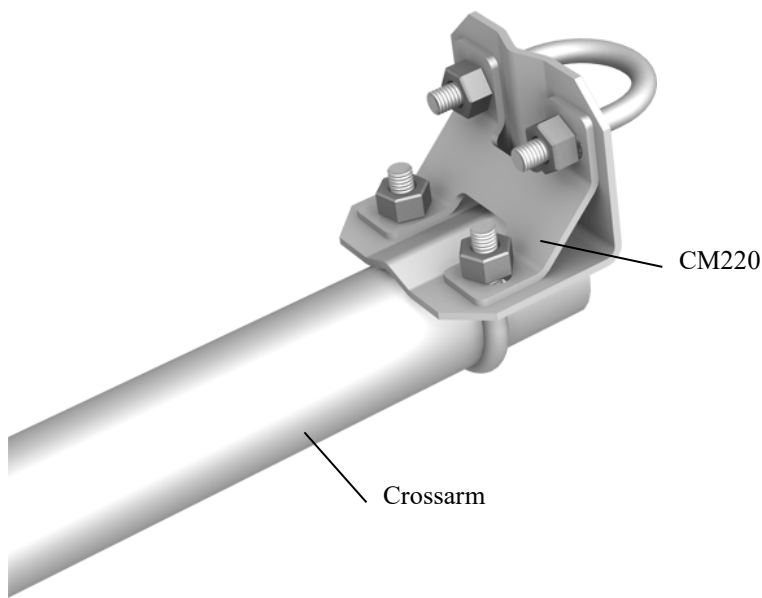
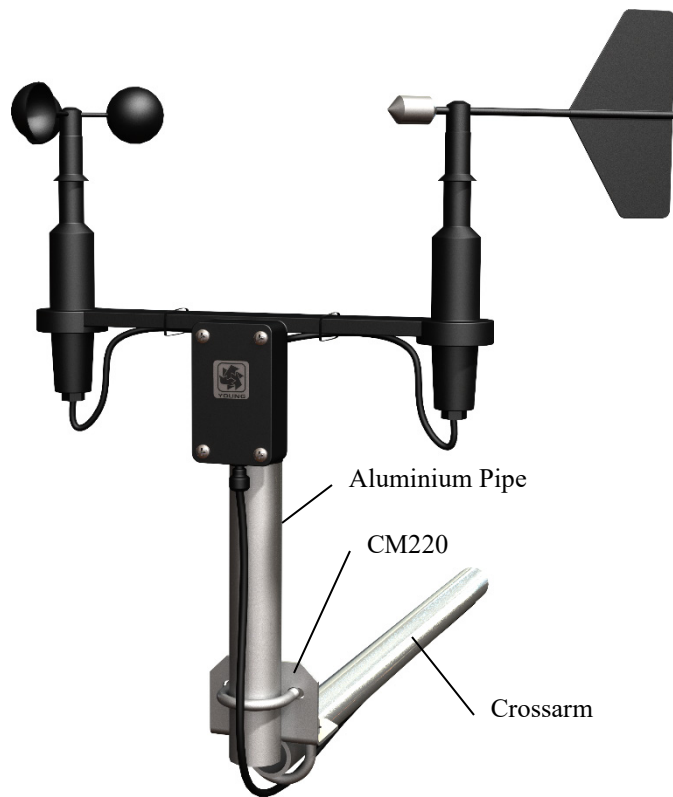
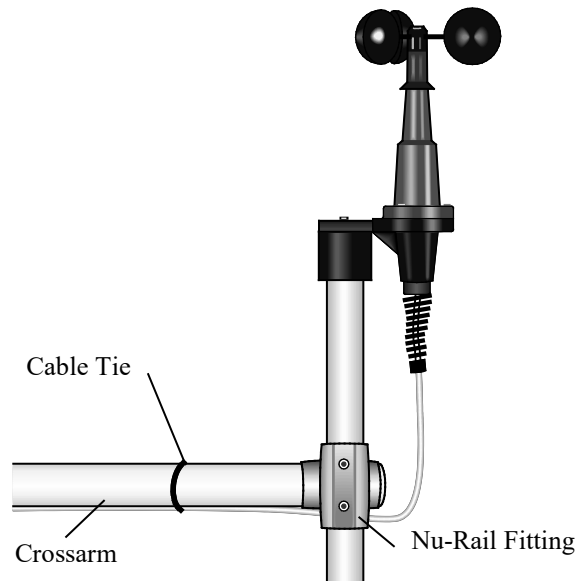

FIGURE 7-1. Crossarm with CM220 Right Angle Mounting Bracket
FIGURE 7-2. 03002 mounted to a crossarm with the CM220
FIGURE 7-4. 03101 mounted to a crossarm via a 3/4 x 1 inch Nu-Rail fitting
- CM220 Right-Angle Mounting Kit (FIGURE 7-1 and FIGURE 7-2),
3. Secure the 3/4-inch IPS, 10-inch-long, threaded aluminium pipe to the CM220 mount (FIGURE 7-1) or 3/4 x 1 inch Nu-Rail fitting (FIGURE 7-4).